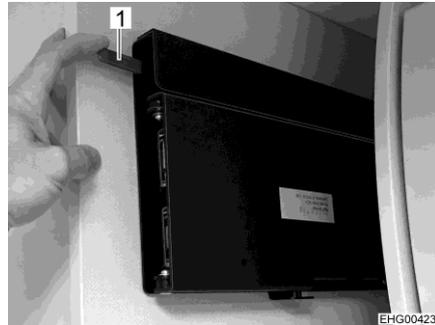
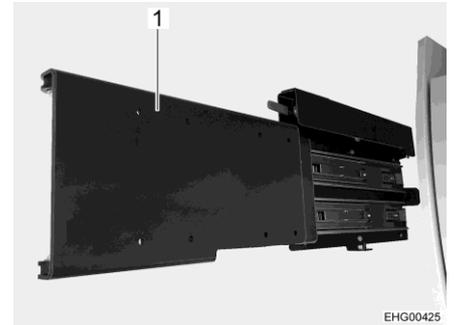

Fig. 93 Unlocking pull-out
Fig. 94 Pull-out (extended)
- Press red lever (Fig. 93,1) downward and pull pull-out (Fig. 94, 1) out. The flat screen faces the living area.